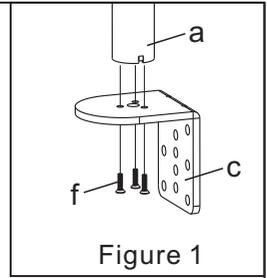

Figure 1
1. Install the "C"-Clamp Brace(c) to the Pole (a) using 3pcs M5x16 Bolts(f), see Figure 1.